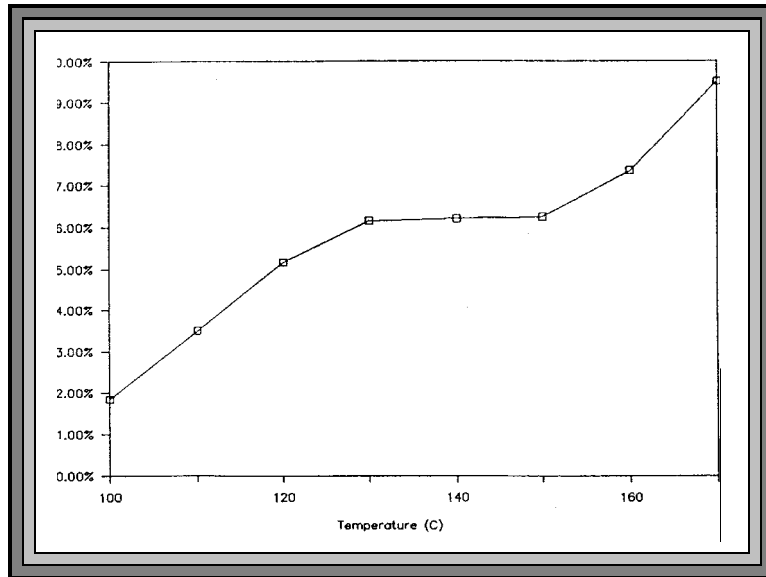

Figure 72 MOISTURE VS. TEMPERATURE CURVE
- 11.2.2 The starting temperature is usually the standard or reference method temperature for that particular sample. Results for each increasing temperature will usually rise to a plateau where several increasing temperatures do not change the results significantly. Beyond this plateau results rise dramatically, (**Figure 72**). Examination of the tested sample shows burning or charring.